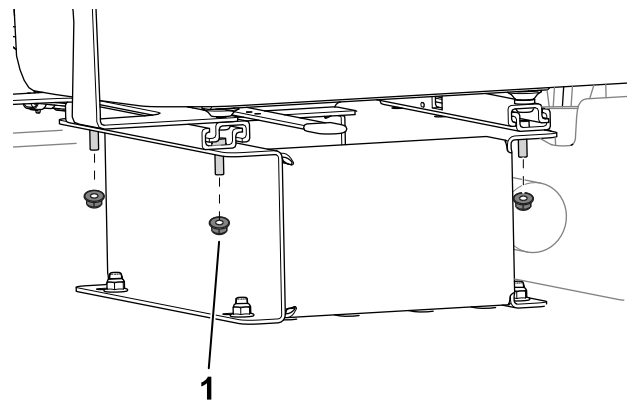

Figure 12
1. Remove the nuts that secures the seat to the seat base (Figure 12).